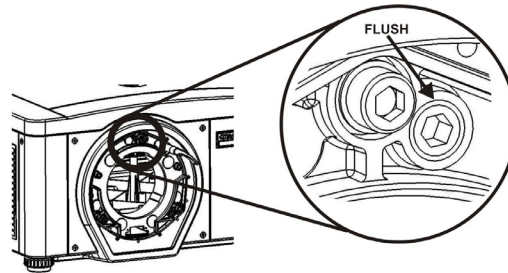

FIGURE 2-3 POSITION SETSCREW FLUSH
9. The original factory boresight can be approximately recovered, by positioning the 3 setscrews flush with the front face of the lens mount plate, and in contact with the inner lens mount plate, see *Figure 2-3 Position Setscrew Flush*. This may require adjusting both setscrews and cap screws.